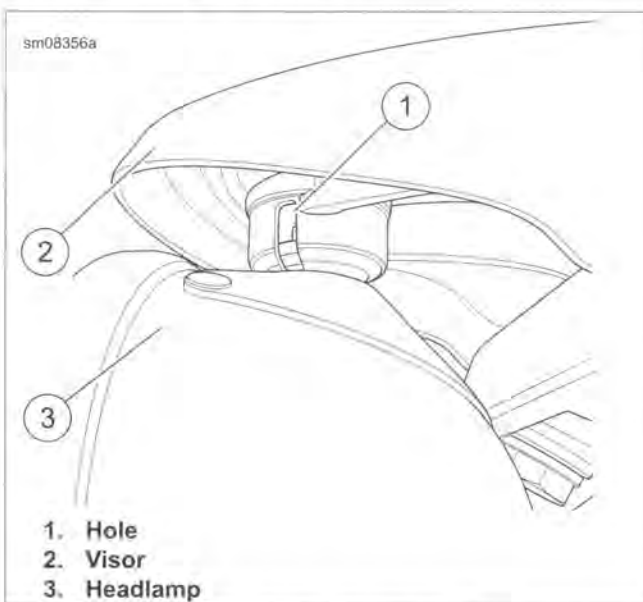
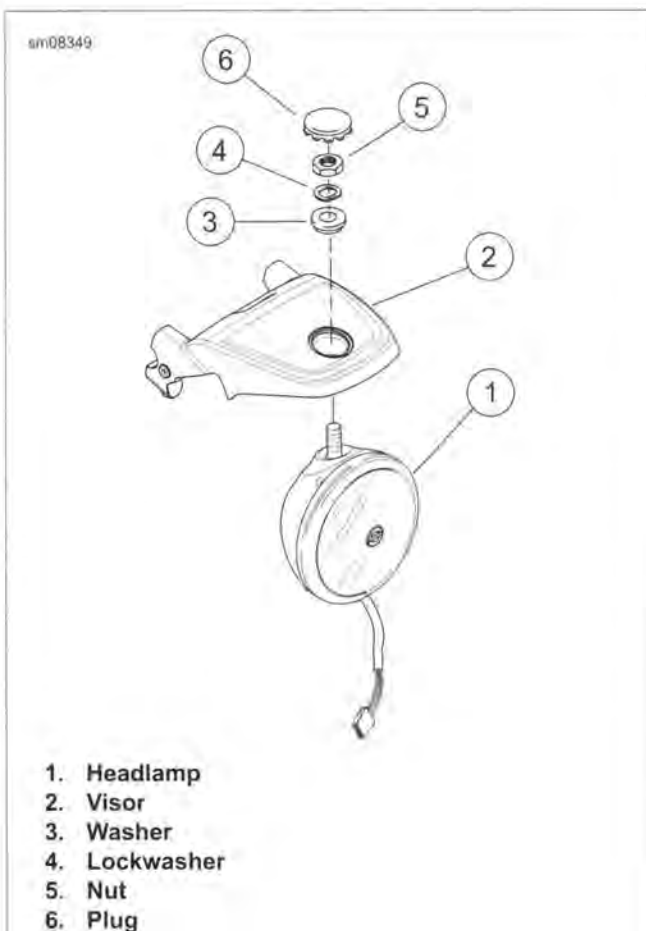

Figure 7-29. Headlamp Visor: FXDL
Figure 7-30. Headlamp Assembly
3. See Figure 7-29. Remove snap plug on top of headlamp visor:
- a. Insert a small screwdriver through hole (1) on left side under visor (2).
4. See Figure 7-30. Remove nut (5), lockwasher (4) and washer (3).